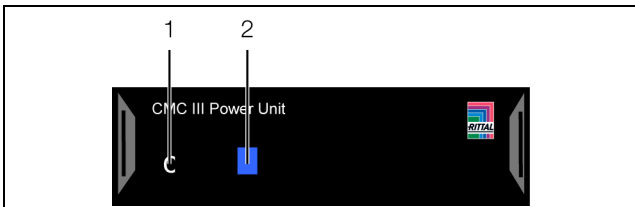
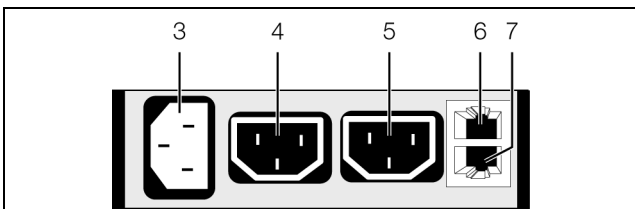

Fig. 11: Front of the Power Unit
Fig. 12: Rear of the Power Unit
- 4 AC output 1 C13, 100–230 V, 50/60 Hz, max. 10 A in total with item 5
- 5 AC output 2 C13, 100–230 V, 50/60 Hz, max. 10 A in total with item 4
A multi-LED for the status display is integrated into the front of the Power Unit (fig. 11, item 2). Further LEDs are located at the rear on the CAN bus connection (fig. 12, items 6 and 7).